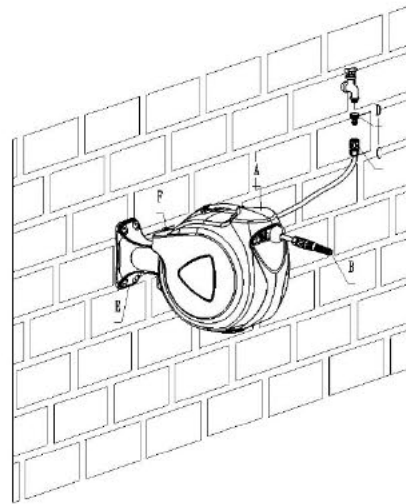

Fig. 7
5. Connect the inlet hose to the water tap. (Fig. 7)